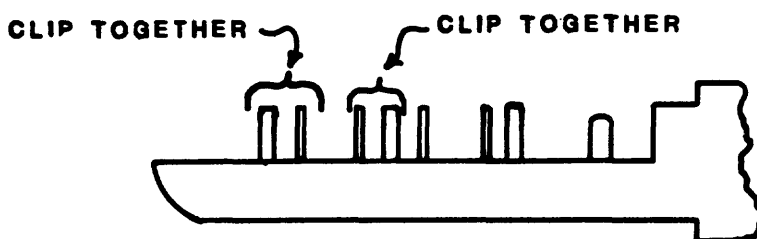

Figure 15.--Switch settings for different ranges.
4. Use a ballpoint pen or a small screwdriver to select the switch closures (fig. 15) for the range desired.